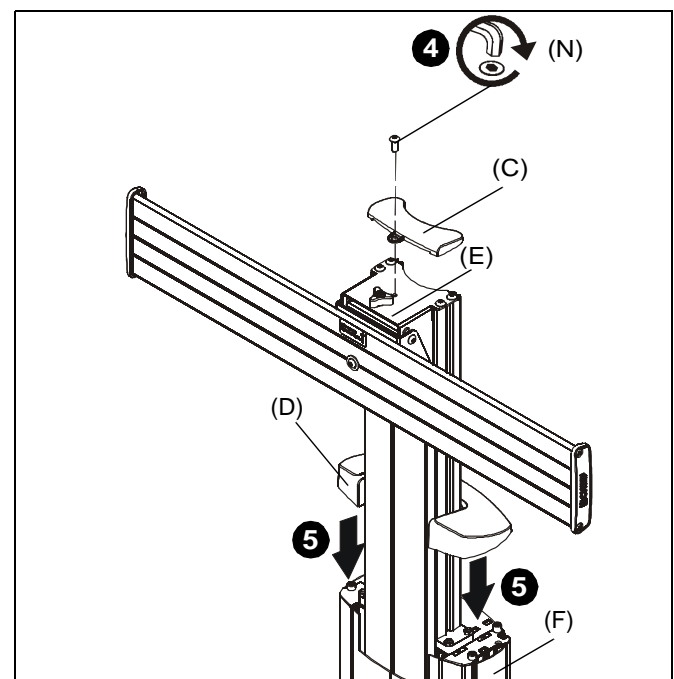

Figure 4
4. Use remaining 5/16-18 x 3/4" button head cap screw (N) to secure column upper cover (C) to interface head assembly (E). (See Figure 4)
5. Snap column inner cover (D) onto column assembly (F). (See Figure 4)